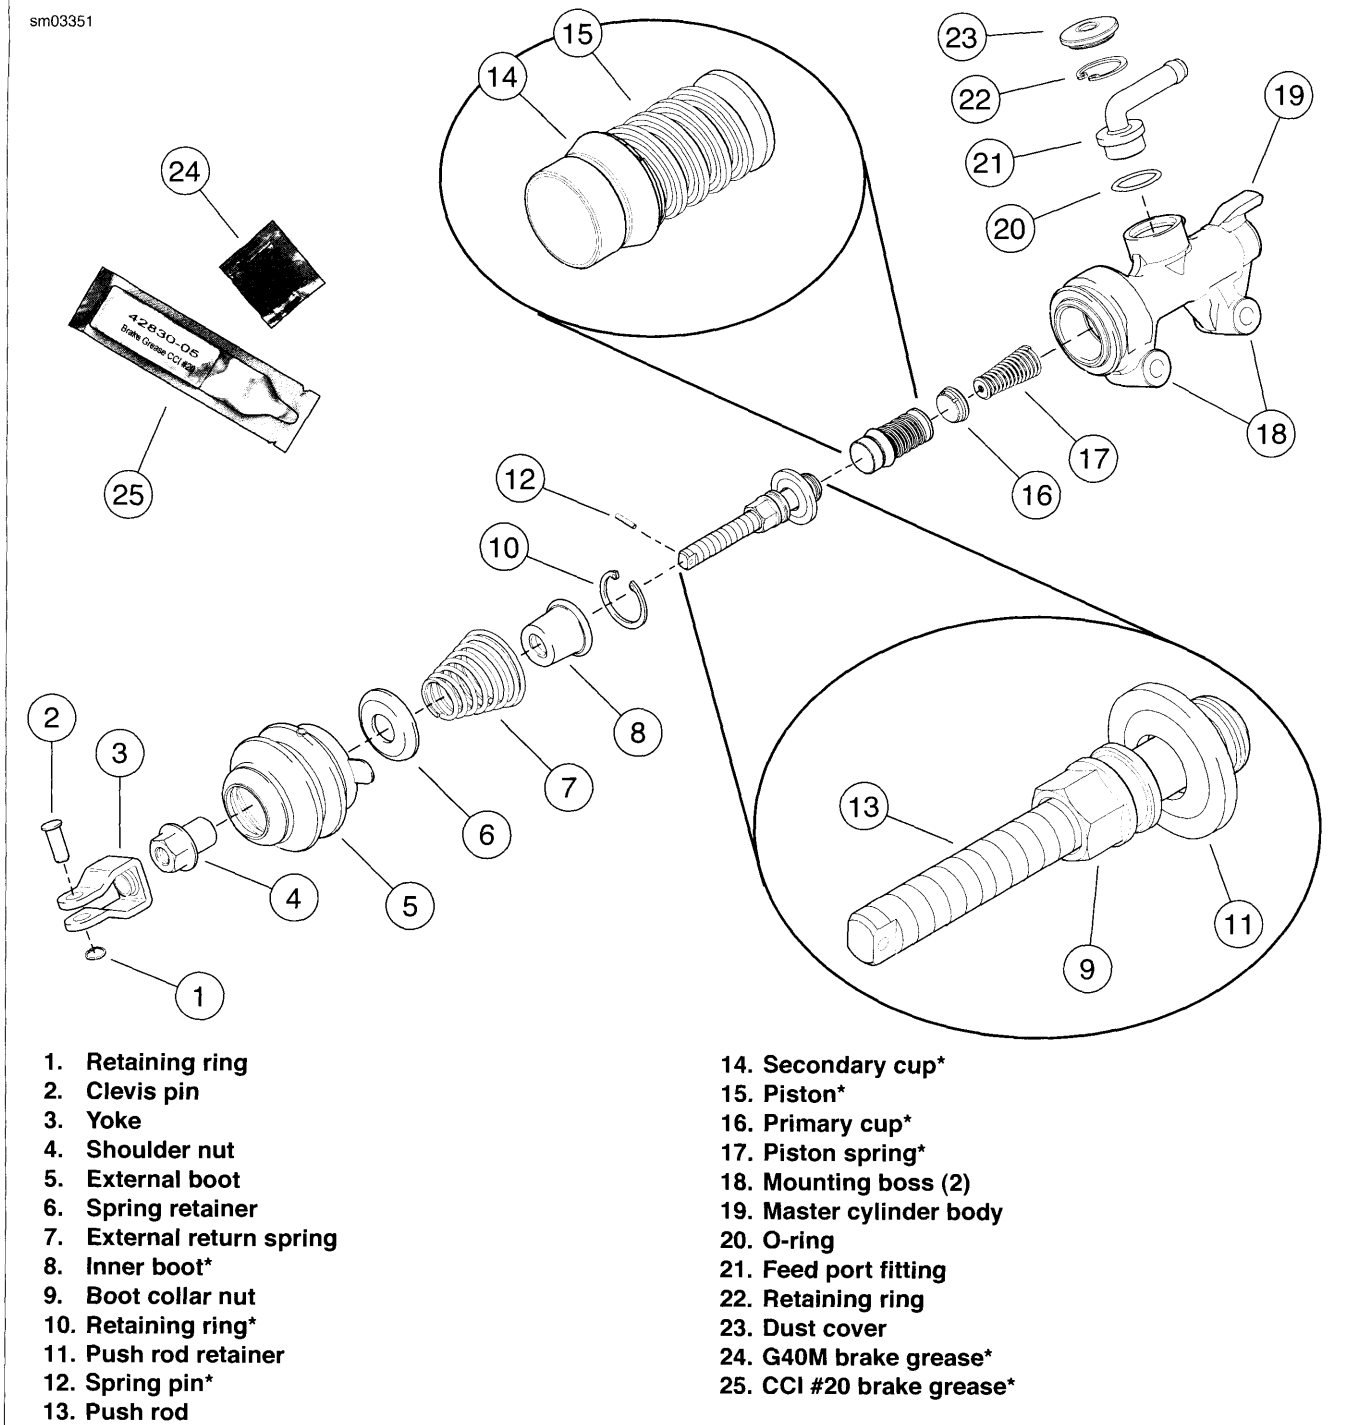
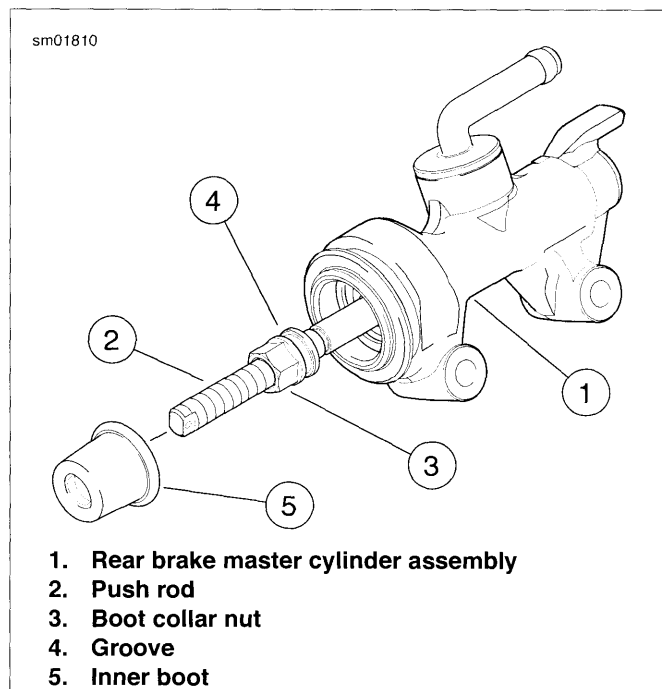

Figure 2-81. Rear Brake Master Cylinder (\*Provided in Service Parts Kit)
Figure 2-84. Lubricating and Installing Inner Boot
- See Figure 2-81. Clamp rear brake master cylinder (19) in a vise by its mounting bosses (18) only. Use brass or aluminum jaw covers or other protective device on vise jaws to prevent damage to master cylinder.
1. See Figure 2-81. Clamp rear brake master cylinder (19) in a vise with yoke (3) pointing up.
2. Remove external boot (5). Remove spring pin (12) from end of push rod (13). Discard spring pin.
4. See Figure 2-81. Press down on spring retainer (6) to compress external return spring (7). While spring is compressed, remove shoulder nut from push rod. Carefully release pressure on external return spring. Remove spring retainer and external return spring.
5. Remove and discard inner boot (8).
1. See Figure 2-81. Thoroughly clean master cylinder body (19) and all brake system components. Blow out drilled passages and piston bore in master cylinder body with
1. See Figure 2-81. Coat **new** O-ring (20) with HARLEY-DAVIDSON D.O.T. 4 BRAKE FLUID. Install O-ring and feed port fitting (21) into feed port on top of master cylinder (19). Secure with **new** retaining ring (22). Verify that retaining ring is fully seated in groove.
See Figure 2-81. Clamp rear brake master cylinder (19) in a vise by its mounting bosses (18) only. Use brass jaw covers or other protective device on vise jaws to prevent damage to master cylinder.
8. See Figure 2-81. Temporarily thread shoulder nut (4) onto push rod (13) several turns to protect push rod threads. Press down on push rod to compress piston spring (17). Slide push rod retainer (11) down into master cylinder bore.
9. Secure push rod assembly with **new** retaining ring (10). Verify that retaining ring is fully seated in groove. Remove shoulder nut from push rod.
10. See Figure 2-84. Apply approximately 0.1 g of G40M BRAKE GREASE around groove (4) in boot collar nut (3). Carefully slide inner boot (5) down onto push rod (2) and into end of master cylinder bore. Press lip of inner boot down around groove in boot collar nut.
11. See Figure 2-81. Install external return spring (7) and spring retainer (6). Thread shoulder nut (4) shoulder-first onto push rod (13), several turns past flats.
12. Thread yoke (3) onto push rod, at least 2-3 turns past flats. Install **new** spring pin (12) into end of push rod.